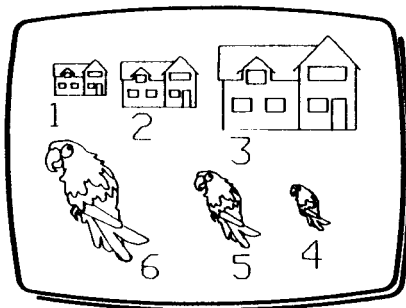

Fig 1
- 2 Select COPY from the Menu and select any library unit from the library, placing it three times at separate locations on the screen, as (1) through (3) in Fig 1.
- 4 **Place the new unit three times, as (4) through (6) in Fig 1. This simulates an assembly of library units such as you might have in a real project.**